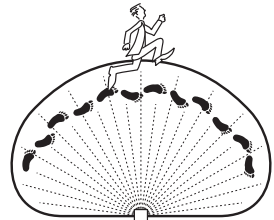

Figure 8
2. Walk through the coverage area noting where you are when the lights turn on. Also, the LED indicator behind the motion sensor lens will glow blue when motion is detected (see Figure 8). *Note:* The blue LED will turn off 30 seconds after all motion has stopped.